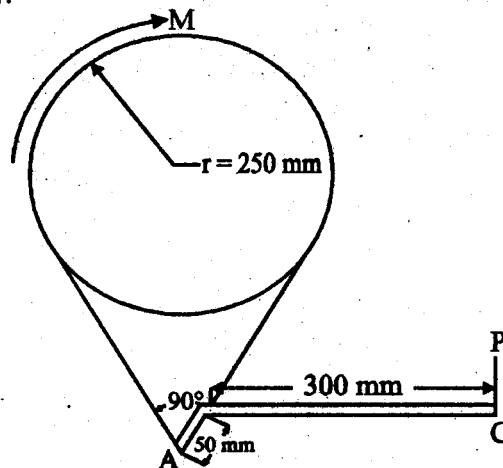

Fig. 4
- (a) A torque of 300 Nm acts on the brake drum as shown in Fig. 4. If the brake bond is in contact with the brake drum through 250° and the coefficient of friction is 0.3. Determine the force P applied at the end of the brake lever for the position shown in Fig. 4.